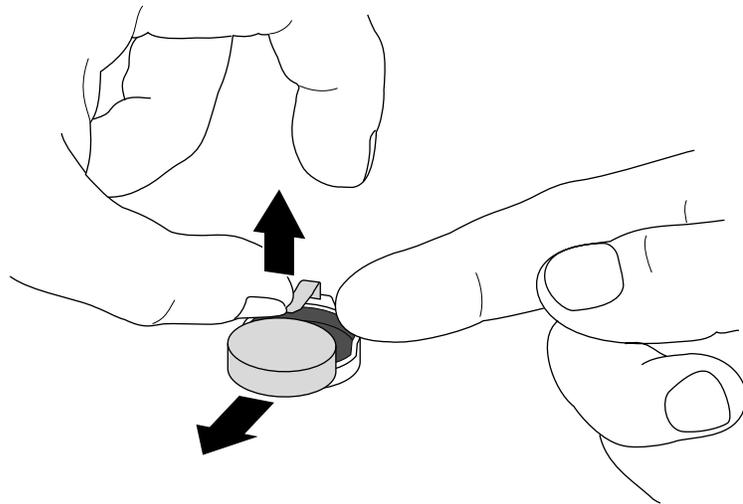

Figure 5-20 Removing the NIC From the Module System Controller
7. Remove the NIC (number in a can) package from the controller board. The NIC is a silver-colored device located at the rear of the controller board. It looks like a very large watch battery. See Figure 5-20.